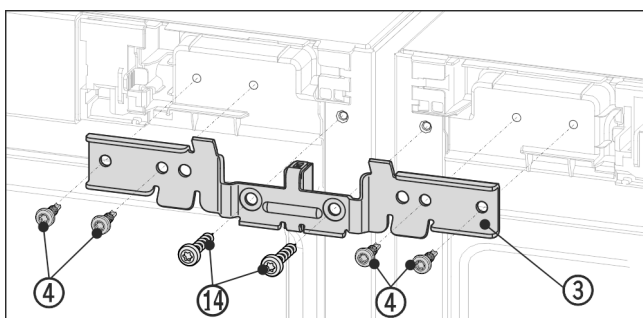

Fig. 12 Example illustration
- Slide the bracket Fig. 12 (3) onto the pins with the spacer between the appliances. Loosely screw in the brackets alternately right and left with four screws Fig. 12 (4) and the previously removed earthing screws Fig. 12 (14).